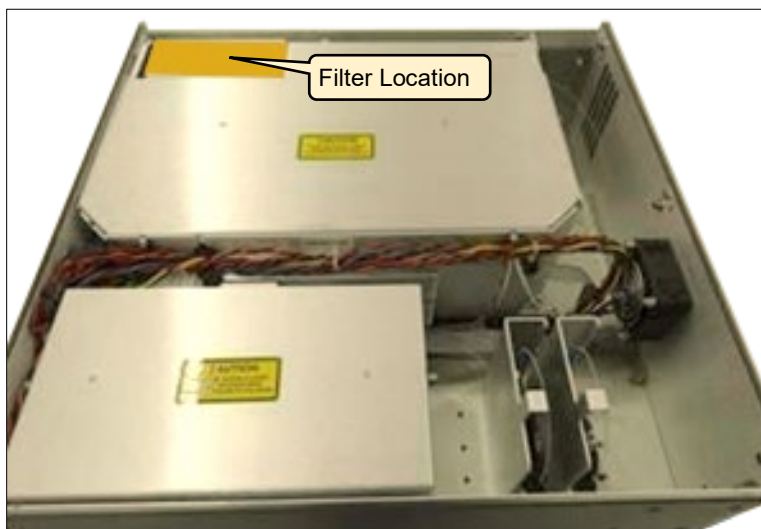

Figure 13: Filter Location
3. Remove the small foam piece surrounding the bulkhead as shown below in Figure 13.